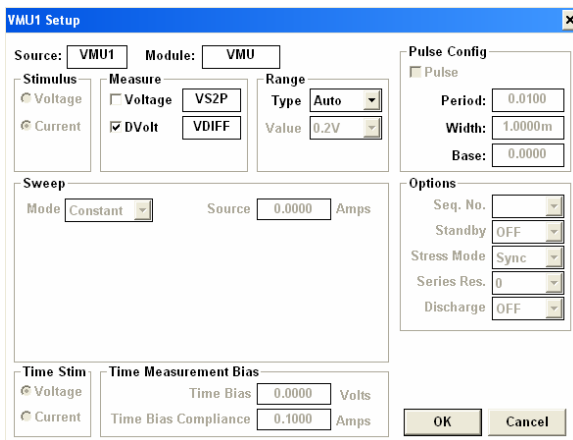

Figure 62: RES_AL set up for voltage difference
6. To measure the voltage difference from B to C click on SMU1 setup editor as shown in Figure 62.